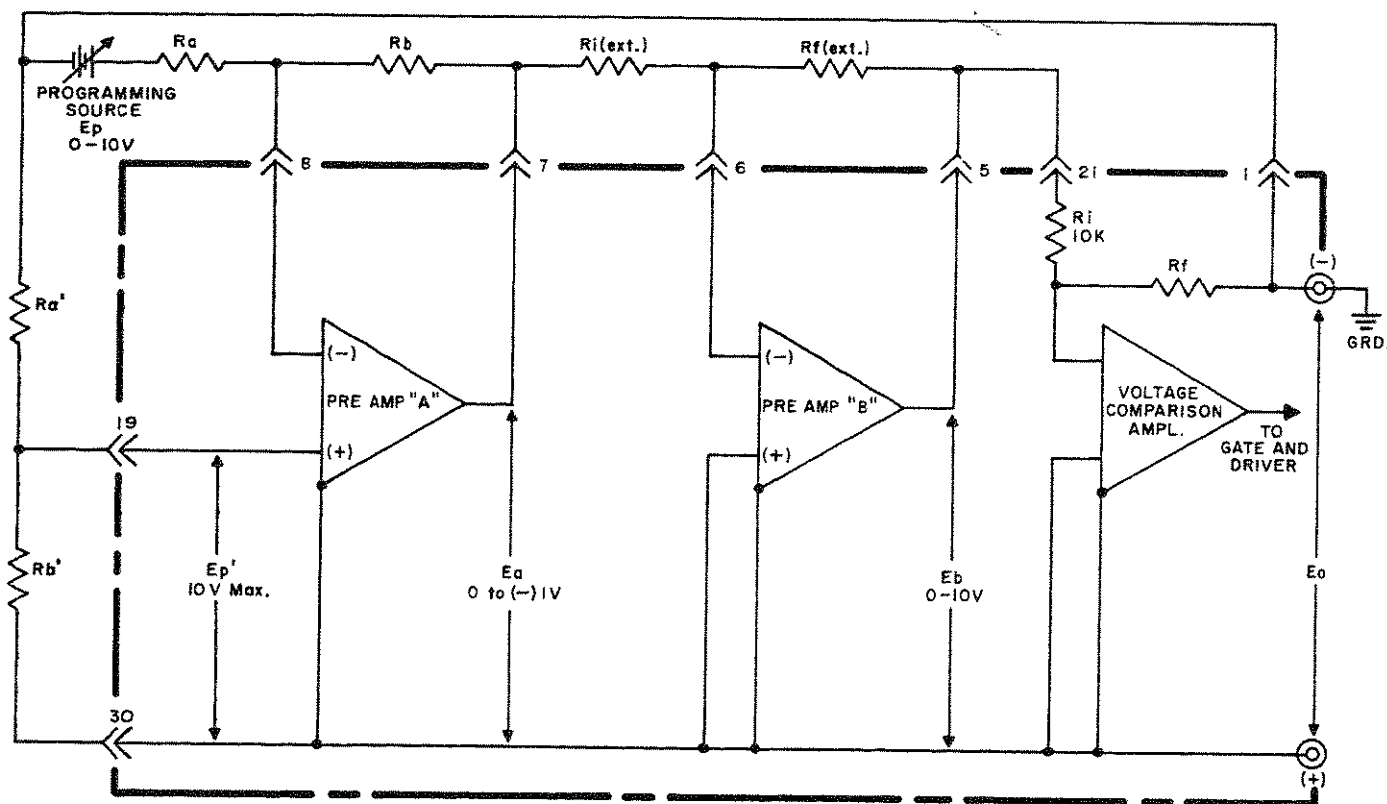

FIG. 3-29 PROGRAMMING WITH REFERENCE TO THE NEGATIVE OUTPUT SIDE OF THE ATE.
- 3-117 This problem is readily solved by the ATE power supply (See FIG. 3-29). PREAMP "A" is used to perform as a differential attenuator, permitting a level shift of the programming source, while PREAMP "B" brings the programming signal back to the required level (0–10V).
Definition of Symbols in FIG. 3-29: